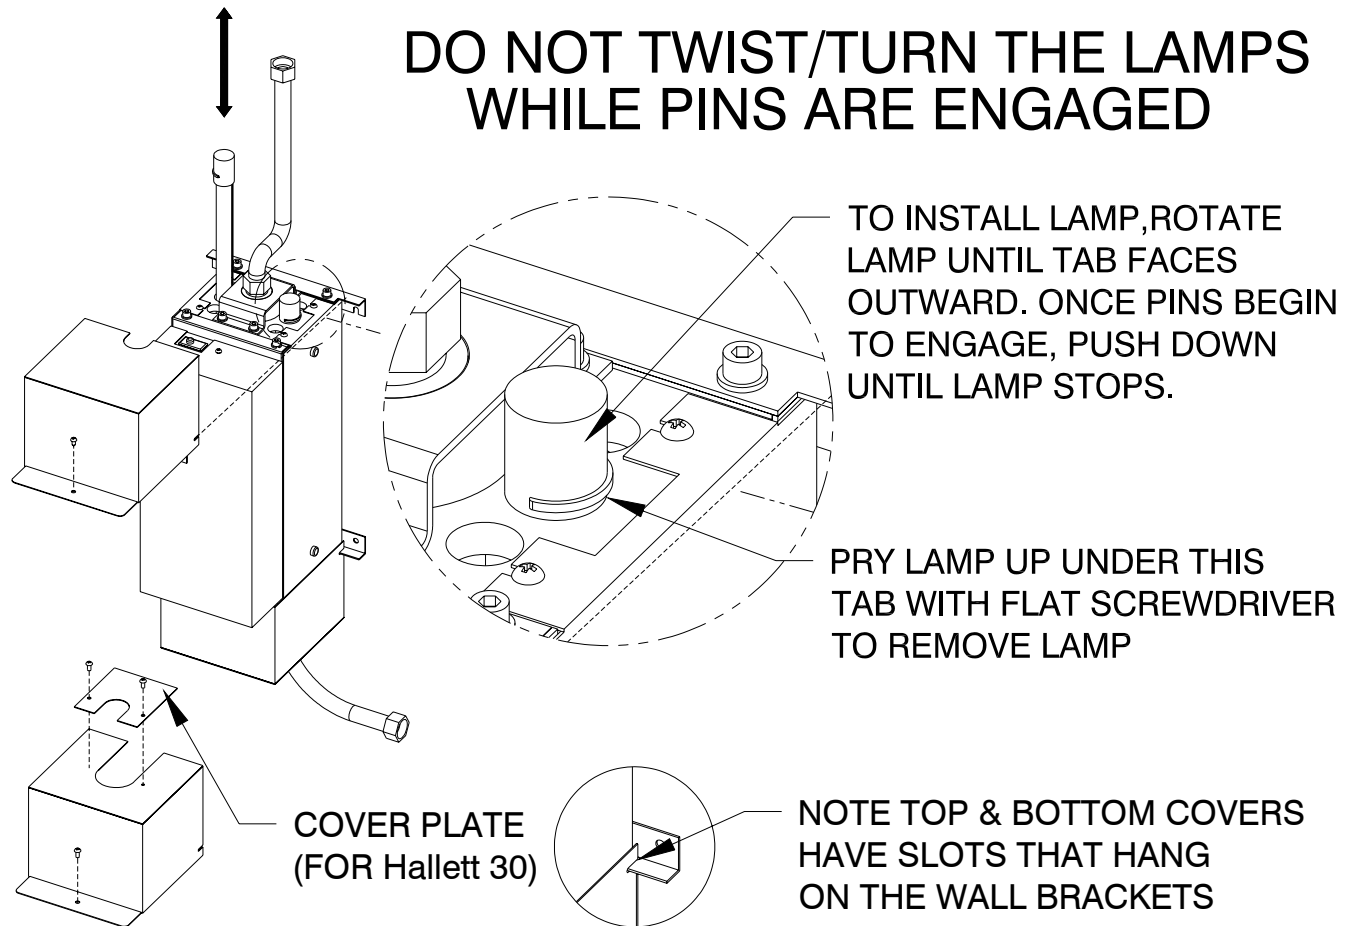

Figure 3
The lamps can be replaced in a few minutes. Draining the unit is not required. See Figure 3.
Step 3: Slowly lift the old lamps out of the unit. **Do not twist the lamps when they are installed.** For assistance in this task, use a flat screwdriver and pry the lamps up (see Figure 3). Dispose of the old lamps in the same way as you would dispose of ordinary fluorescent tubes. Note that old lamps should be disposed of at a household waste management depot or transfer station; contact your local recycling and waste management authority for proper disposal procedures in your area.
Step 4: Install the new lamps into the unit, being careful not to touch the bulbs. Align the tab of the lamp to face the outside of the unit, as shown in Figure 3. Once the pins of the lamp begin to engage into the lamp socket, push firmly down on the top of the lamp. **Do not twist the lamps when they are installed.** The lamp will come to rest when the lamp pins are fully inserted into the socket. When pressing down, be sure to position the lamp ceramic end in the centre of the hole in the aluminum top plate. Repeat for the other side.